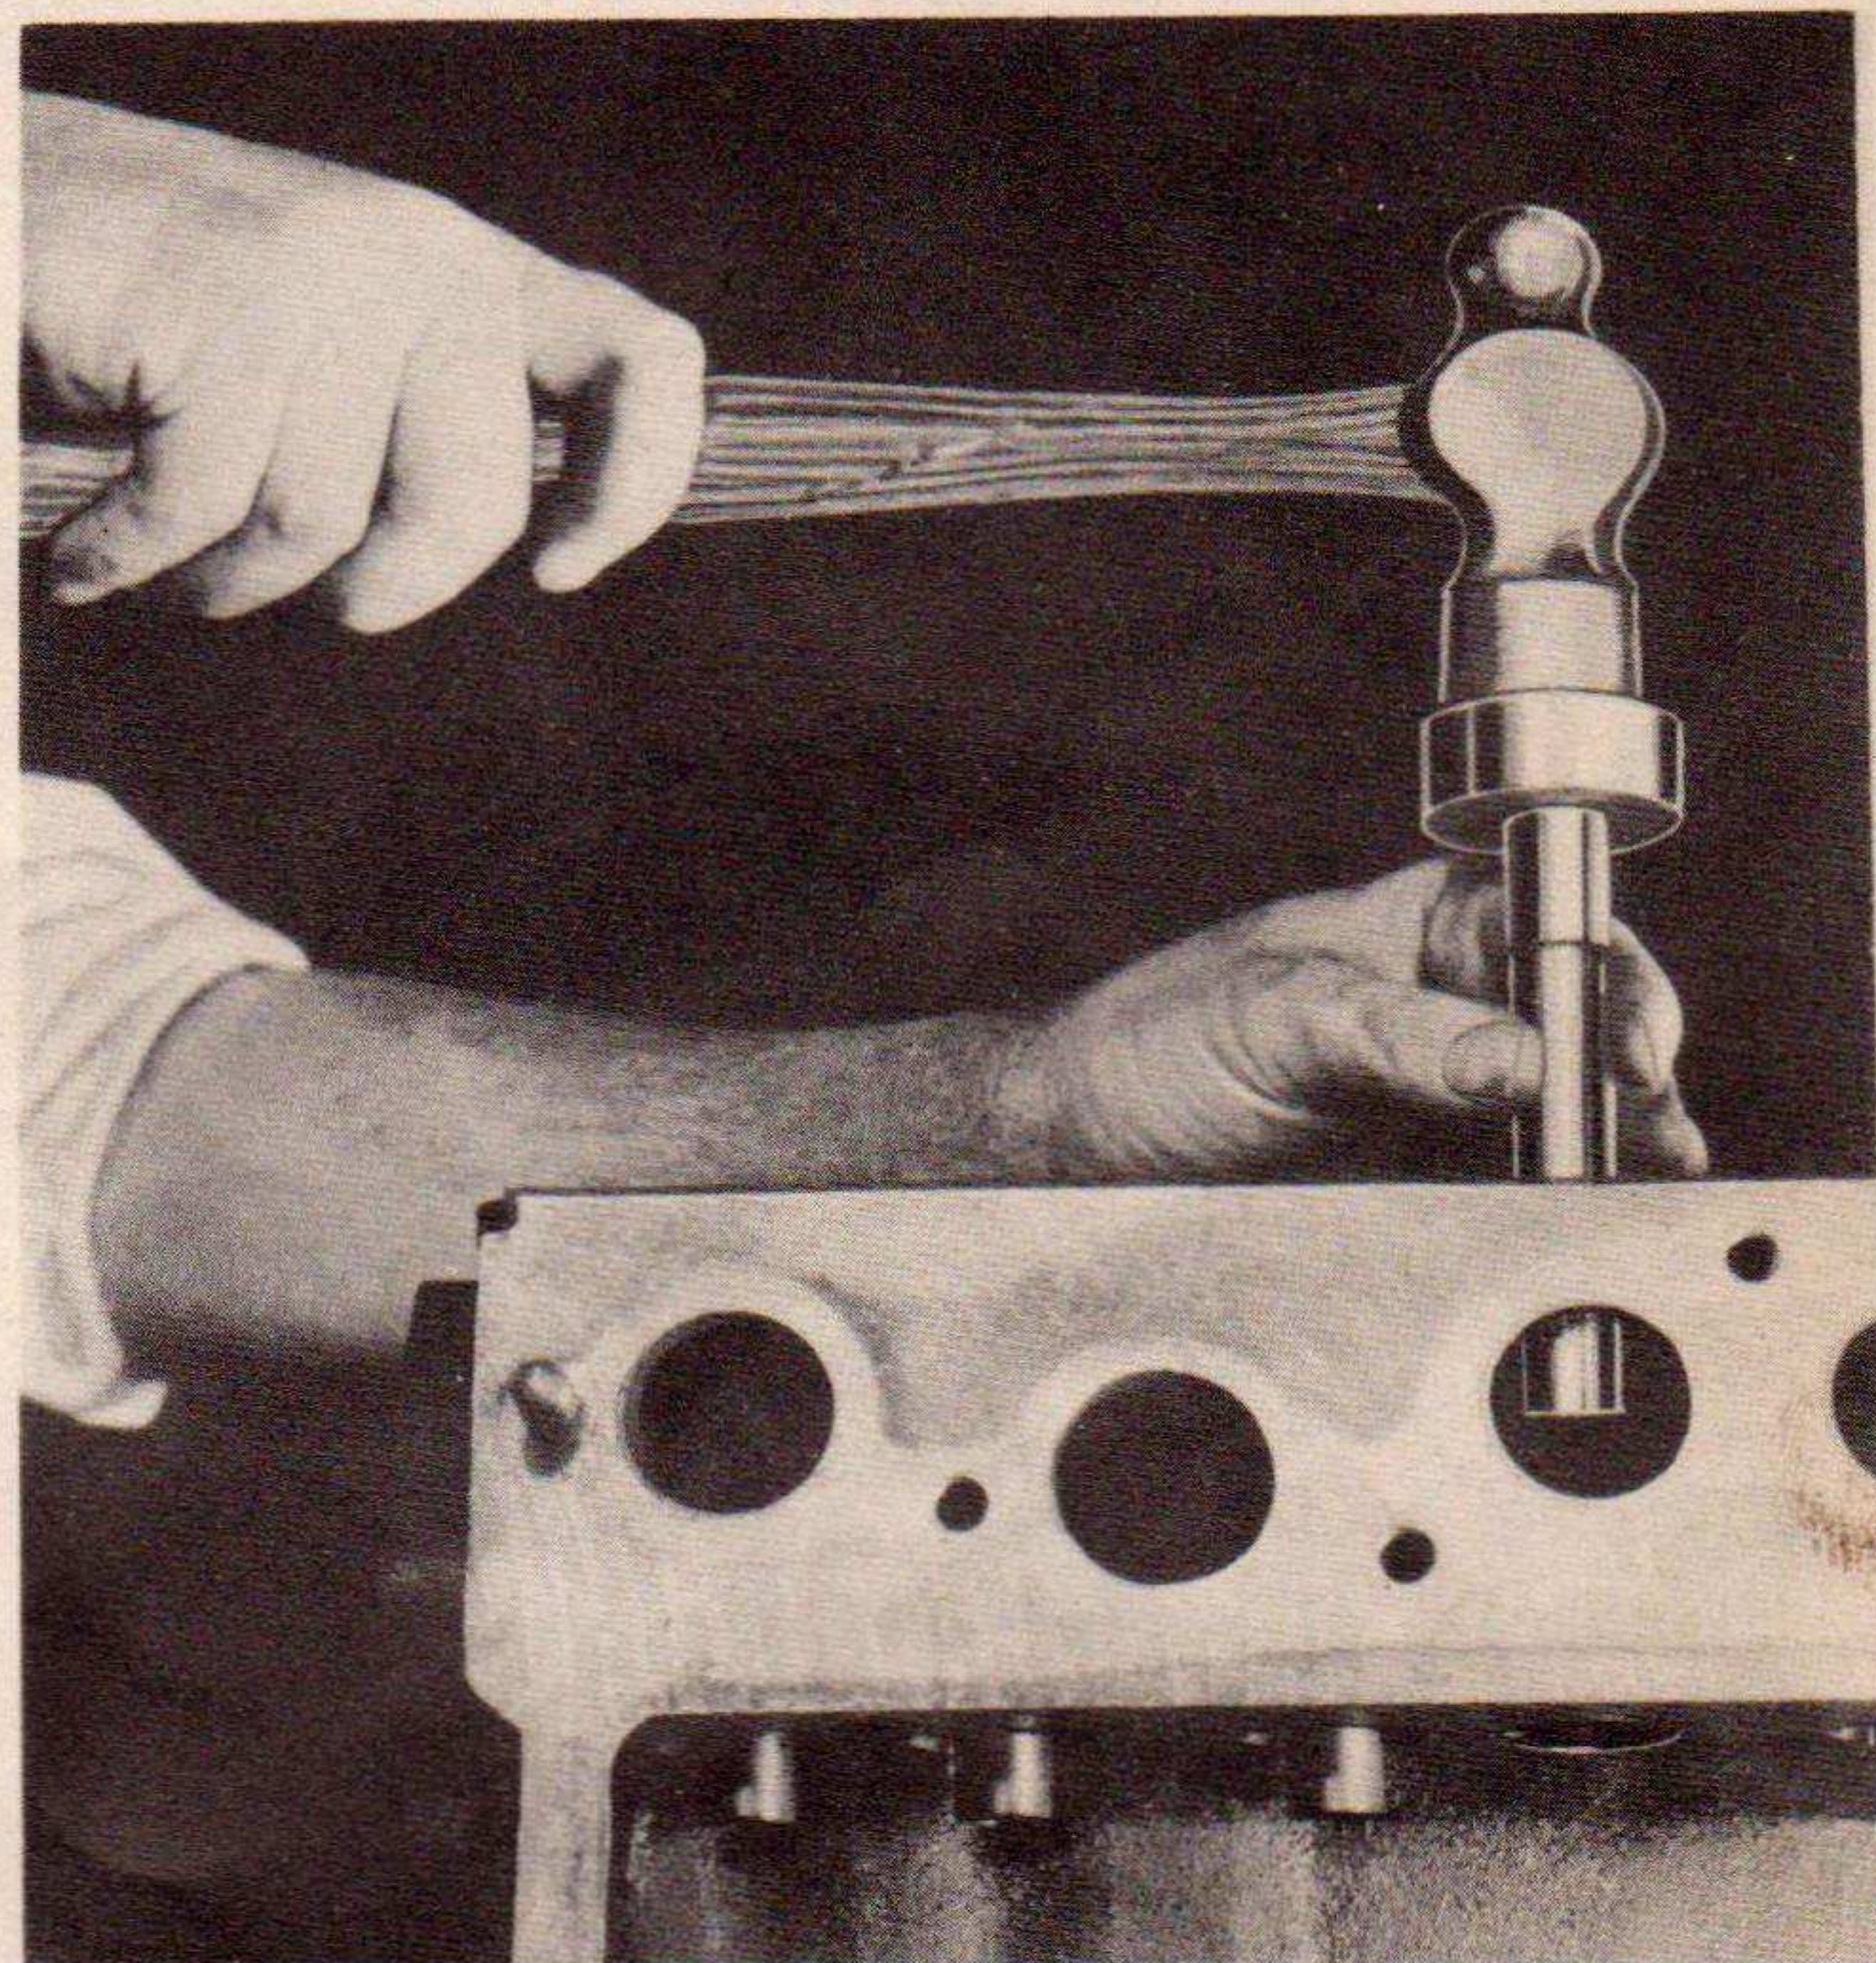

FIG. 20 INSTALLING VALVE GUIDES
(2) The valve guides are installed with a replacer or a driver as shown in (Fig. 20). Taking a piece of half-inch round stock 6" long and turning down one end to 3/8" diameter 2" long will make a suitable driver.